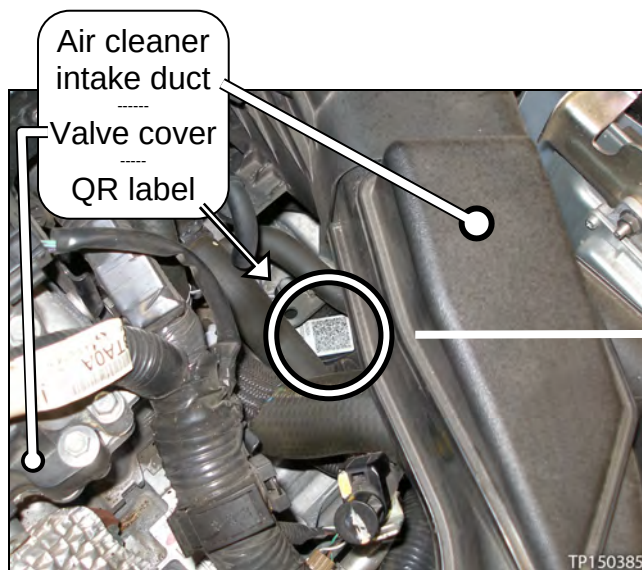

Figure 36
- o See Figure 36 and 37 below.